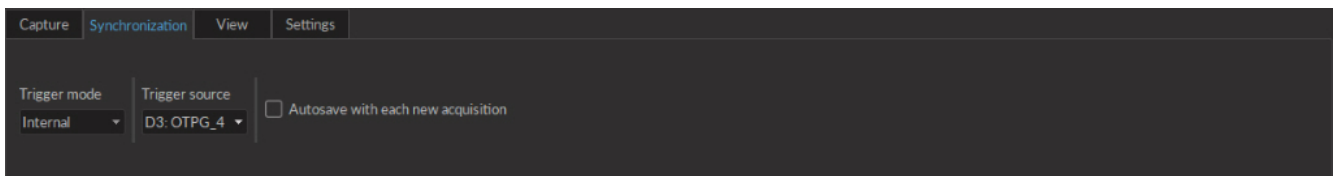

Figure 3.45: Camera Module - Synchronization Tab
2. The **Synchronization** tab (Fig. 3.45) contains the controls related to synchronization with other Doric devices. The software will allow for the synchronized triggering of the experiment. To synchronize the frame acquisition between the camera and the microscope, it is important to set the same frame rate in both devices (e.g. Camera FPS: 20 and Microscope exposure: 50 ms).